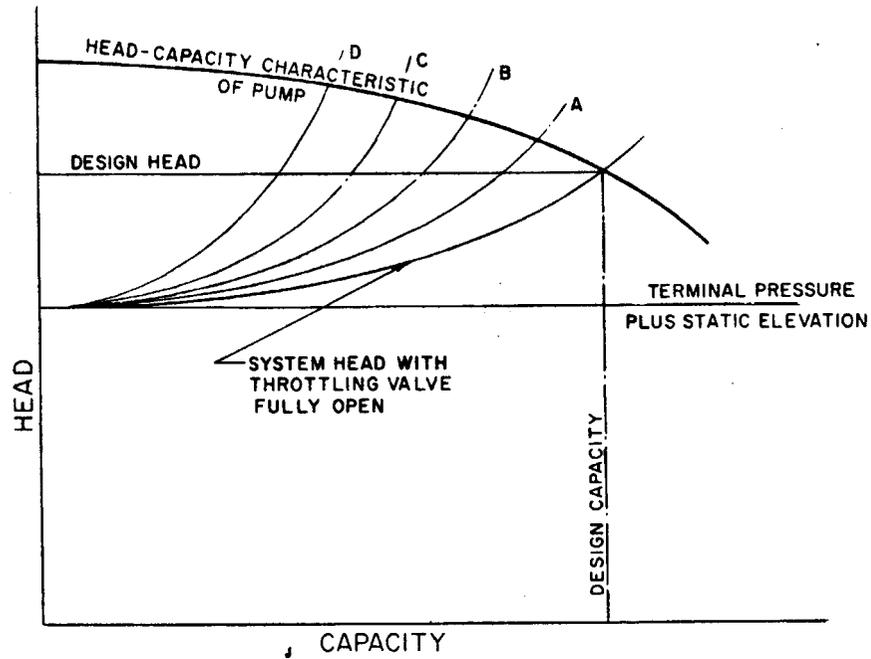

Fig. 23.1 Effect of throttling valve used to vary pump capacity.
- Controllo manuale (valvola a globo) Fig. 23.1
- Controllo del livello Fig. 23.1